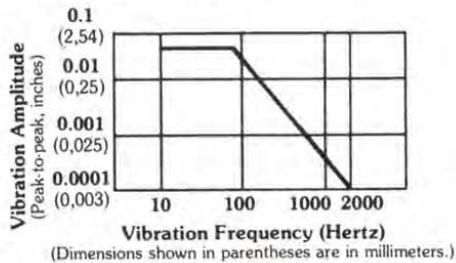

Figure 4
**6.17.2 Procedure** — Initial resistance shall be measured. The mounted resistors shall then be subjected to the vibration amplitude and frequency range shown in Figure 4. The vibration waveform shall be a simple harmonic motion having an amplitude sufficient to provide 20g constant peak acceleration, but not to exceed 0.06 inch (1.52 mm) peak-to-peak amplitude. The frequency shall be varied approximately logarithmically between the nominal limits of 10 and 2000 Hertz with a return sweep to 10 Hertz. The entire sweep from 10 to 2000 to 10 Hertz shall be traversed in approximately 20 minutes. This sweep cycle shall be performed repeatedly for 6 hours in each of two directions: parallel and perpendicular to the longitudinal axis of the resistor. Interruptions are permitted provided requirements for rate of change and test duration are met. Electrical monitoring shall be provided during this test to detect resistor discontinuities of 0.1 millisecond or greater duration. Final measurements and examination for mechanical failures shall be made after the test.